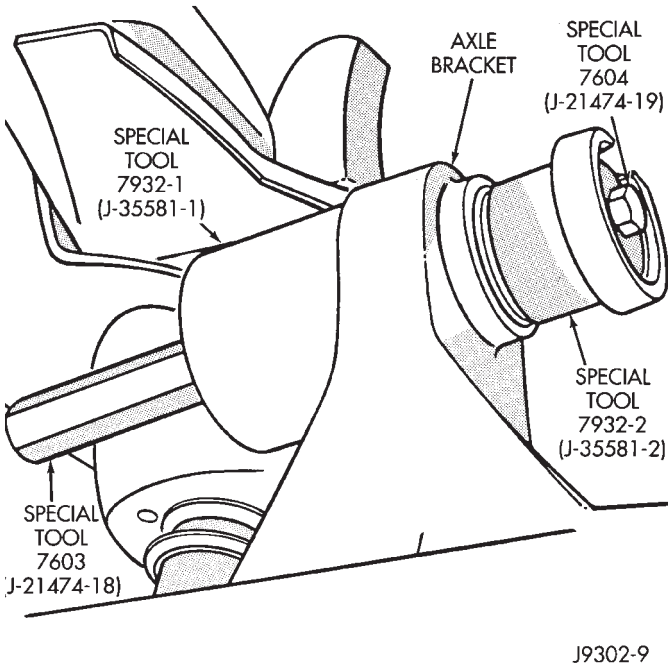

Fig. 4 Axle Bracket Bushing Removal
(1) Remove the upper suspension arm from axle. Refer to Upper Suspension Arm Removal in this Group.
(2) Insert Spacer 7932-3 (J-35581-3) around the bushing in the axle bracket ears (Fig. 4).
(3) Assemble and install Bushing Removal/Installer (Fig. 4).
(4) Remove the bushing by tightening the hex-head on Long Nut.